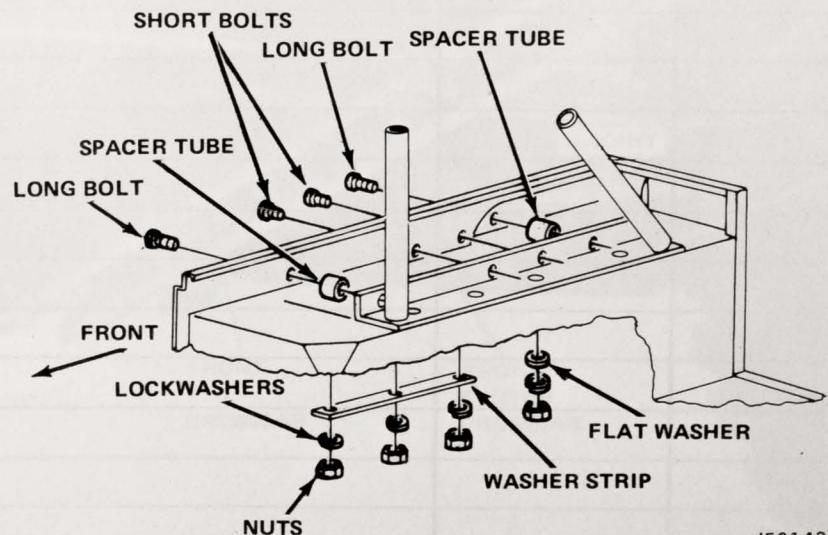

Fig. 9-1 Roll Bar Installation
(1) Place roll bar in vehicle on top of rear wheelhousings. Roll bar must be sprung together slightly to go past lip at top of side panels. Position forward edge of roll bar 6 inches from forward edge of wheelhousing (fig. 9-1).
(2) Drill 3/8-inch diameter holes through body using holes in roll bar angle base plates as a template. Rear hole on bottom of each plate must be marked and roll bar removed before drilling. Drill remaining holes in wheelhousings after roll bar has been bolted to vehicle side panels.
(3) Install side panel bolts, inserting long bolts into foremost and rearmost holes on each side and positioning spacer tubes over these bolts (fig. 9-1).
(4) Lower roll bar into position. Install middle two bolts, lockwashers, and nuts. Install end lockwashers and nuts.
(5) Install bottom bolts, with roll bar bolted to side panels, after drilling three 3/8-inch holes through each wheelhousing using the roll bar angle base plates as a template. Install short bolts into drilled holes, place washer strip into position underneath wheelhousing (fig. 9-1), and install lockwashers and nuts. Install flat washer, lockwasher, and nut on rearmost bolt on each side. Tighten all nuts to 18 foot-pounds torque.